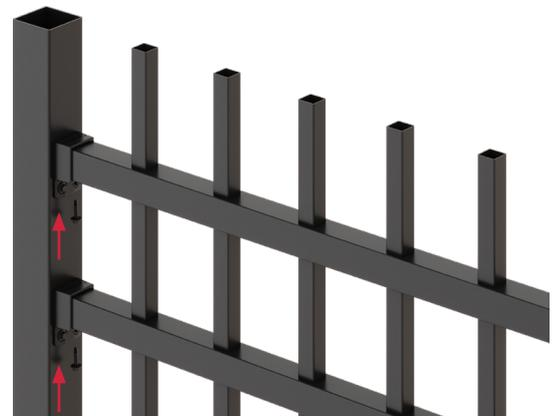

Fig. 9
3. Using the provided tek screws, fix the panel into place through the tab side of the brackets. *Fig. 9*